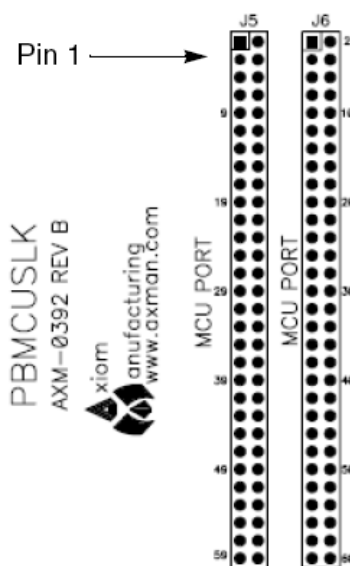

Figure 3. Installation of Application Module
1) Install the application module in the MCU PORT connector (J5) on the project board. Align pin 1 on the application module with pin 1 of the MCU PORT connector on the project board as marked by Figure 3.